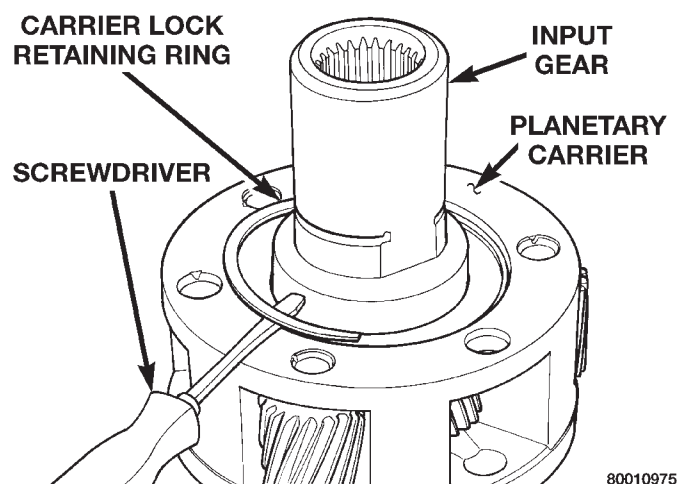

Fig. 35 Input Gear Snap-Ring Removal
- (1) Remove snap-ring that retains input gear in low range gear (Fig. 35).